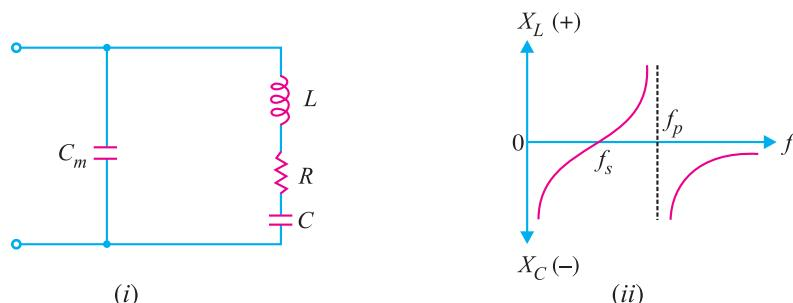

Fig. 14.22
When the crystal is vibrating, its equivalent electrical circuit is as shown in Fig. 14.22 (i). The capacitance values of  $C$  and  $C_m$  are relatively low (less than 1 pF for  $C$  and 4–40 pF for  $C_m$ ). Note that the value of  $C$  is much lower than that of  $C_m$ .
- (i) At low frequencies, the impedance of the crystal is controlled by extremely high values of  $X_{Cm}$  and  $X_C$ . In other words, at low frequencies, the impedance of the network is high and capacitive as shown in Fig. 14.22 (ii).